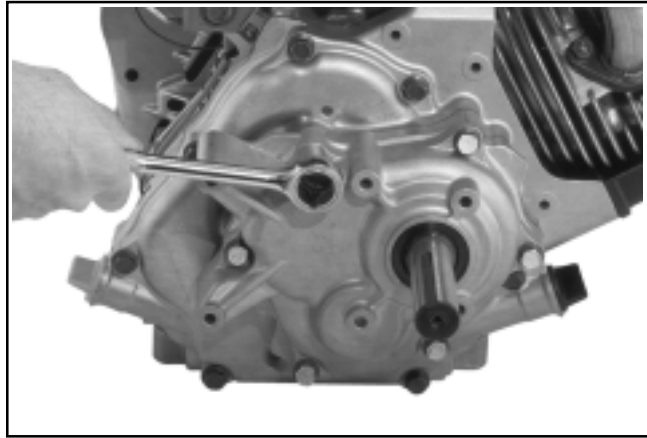

Figure 9-69. Removing Housing Cover Screws.
- Remove the six reduction cover mounting screws. See Figure 9-69.